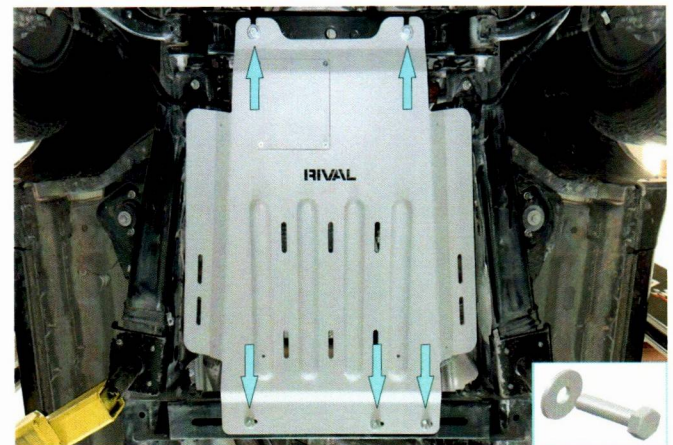

Fig. 4
4.1 If the RIVAL engine skid plate installed: loosen the rear skid plate bolts, slide the gearbox skid plate and fix it using bolts M10x35 and penny washers 10 (item B, C) as shown in fig.4.
4.2 If not, put the front side of RIVAL skid plate (item 1) on preinstalled bolts and fix the rear side using bolts M10x35 and penny washers 10 (item B, C) as shown in fig.4.